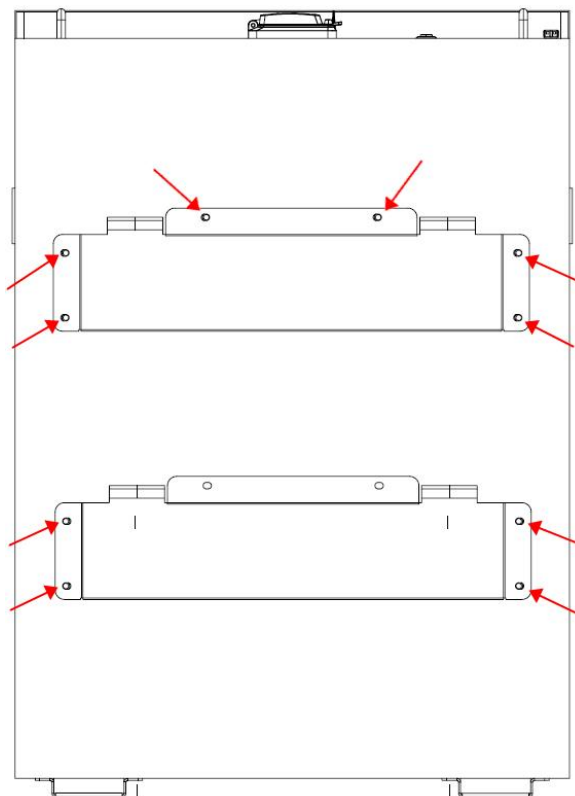
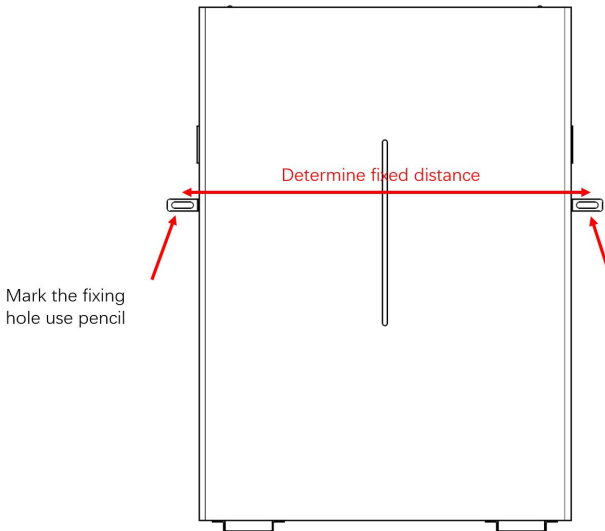

Figure 5-2
Figure 5-5
d) Use the 10 screws of M6 to fix the backplane to the back of the battery as shown in Figure 5-2.
b) Stand the battery on the side of the wall, mark the location of the fixing hole. Choose the recommend drill head (as shown in below picture) to drill 2 holes on the wall, 100-110mm deep, as shown in Figure 5-2 and Figure 5-5.
c) Use a proper hammer to fix the battery to the wall, fit the expansion bolt into the holes, as shown in Figure 5-2.